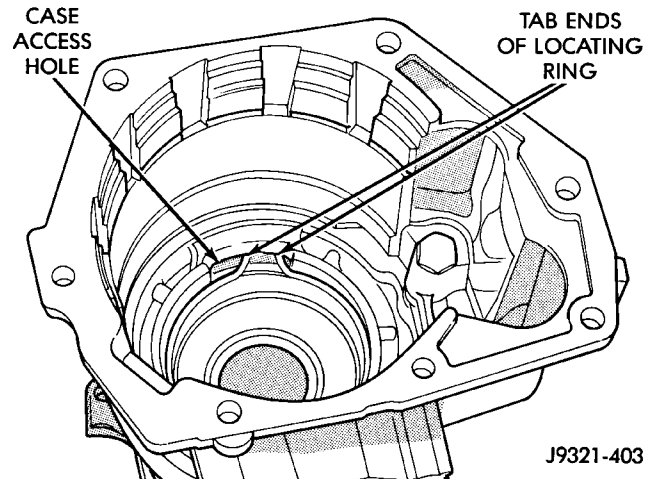

Fig. 241 Correct Rear Bearing Locating Ring Position
(5) Install new seal in gear case. Use Handle C-4171 and Installer C-3995-A to seat seal in case.
(6) Verify that tab ends of rear bearing locating ring extend into access hole in gear case (Fig. 241).